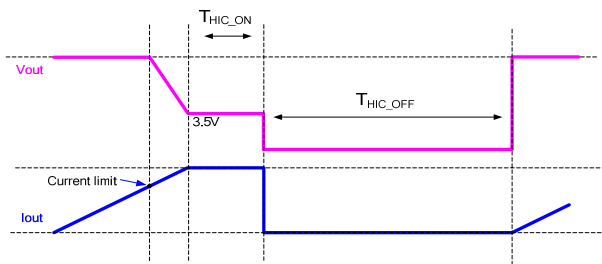

Figure 6: Over-Current Protection
If the over-current (OC) is triggered, and $V_{OUT} < 3.5V$ lasts for 2ms, the MP5030 enters hiccup mode. If OC occurs but V_{OUT} is greater than 3.5V, the MP5030 works in constant current (CC) limit mode without hiccup. In this case, V_{OUT} drops while the output current increases slowly (see Figure 6).